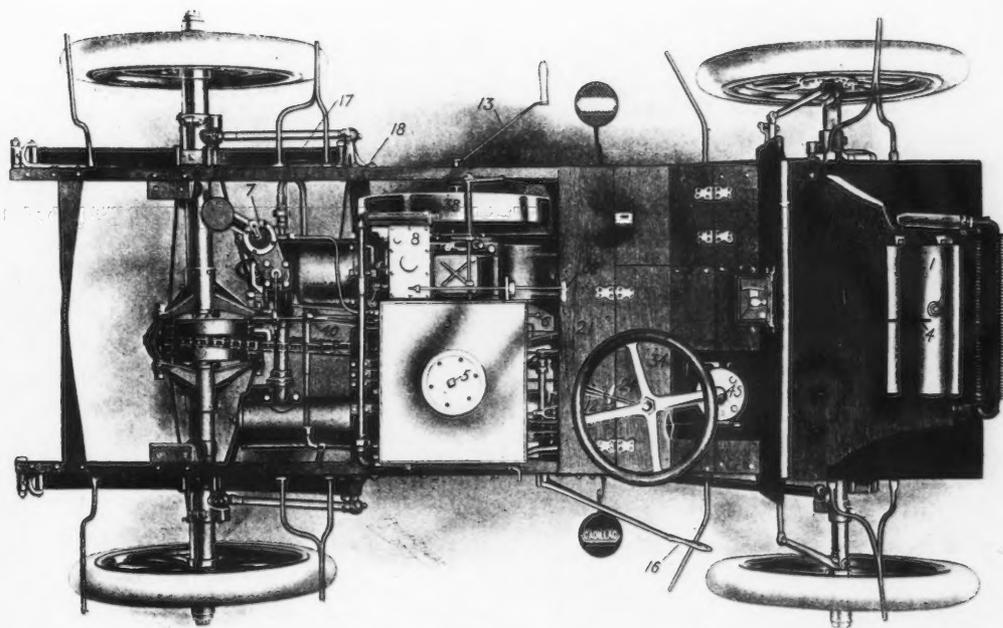
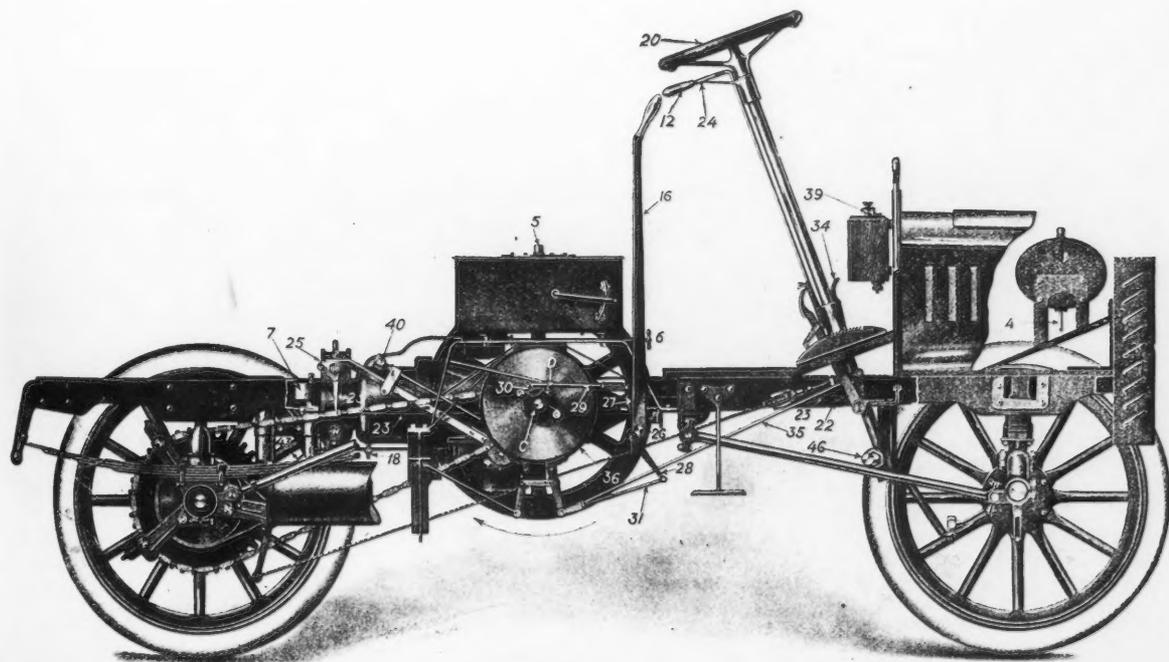

Figure 1
Figure 3
Raise hood cover and fill water tank (Fig. 1). To do this remove plug (2) in top of tank (1), insert funnel and fill with water. In freezing weather use some good anti-freezing solution. In filling tank first time or after water system has been drained, open cock (38) in end of stand pipe at side of lubricator. To get at this cock remove front cushion on left side and raise seat panel. Be sure to close cock (38) after tank is filled.
Take out cushion on right side front seat, raise seat panel, remove plug (5) in gasoline tank (3), insert the funnel and fill with clean gasoline, straining the gasoline through a screen, or preferably, a chamois skin in the funnel, and then replace the gasoline and water filling plugs (5 and 2, Fig. 1), screwing them in firmly, but not too tight. See that the gasoline valve (6) is open and that gasoline flows freely to Carburetor (7) by pressing down with the finger the primer (17, Fig. 1 and 3) until the gasoline flows out of the bottom of the Carburetor.
See that oil cup (8, Fig. 1) is full and feeds about 15 to 20 drops per minute. (No exact rule for oil feed can be given—too much oil is indicated by blue smoke from exhausts.) This cup, which also feeds the main bearings, is of the utmost importance (see Fig. 13, page 27).
The steering gear should be oiled occasionally at the top and bottom of the steering post (45, Fig. 1), also on the rack (46, Fig. 3).
Fifth. Insert starting crank (13, Fig. 1) in end of shaft (14, Fig. 1), turn crank (in direction indicated by arrow under fly wheel (Fig. 3) until the compression is felt to resist further motion, then turn the engine quickly over compression once. If engine fails to start, "prime it" by pressing down rod (17, Fig. 1) until gasoline flows. If the motor fails to start after the third or fourth time over compression there is some good reason. Cranking at random is a useless waste of energy.
Don't throw high speed lever (No. 16) forward before low speed lever (31, Fig. 3) is released or vice versa, or a broken crank shaft may result.
Open the cylinder drain valve (18, Fig. 3) so as to release the compression, then put the controller lever (16) in its neutral position, about half way between the ends of its travel. Now, by inserting the starting crank in the end of starting shaft (14) the motor should turn with very little resistance. Close the valve (18); the motor should turn as easily as before, except on the compression stroke, when throttle is wide open, which should give a considerable resistance to the turning of the starting crank. When the handle (A, Fig. 2) is turned up, and the spark lever (15) is moved to the retarded position, the spark should occur just after the end of the compression stroke of the piston. That is, just as the resistance of the compression on the starting crank has stopped, the sound of the vibrator (39, Fig. 3) on the coil should commence. If no sound of the vibrator can be heard when turning the motor over slowly by hand at the end of each compression stroke, the electrical outfit should be inspected separately. See electrical explanation (Fig. 5, pages 24 and 25).
The shifting of the cam (25, Fig. 3) increases or decreases the size of the opening into the cylinder through which the explosive mixture of air and gasoline must pass, thereby increasing or decreasing the amount of the charge which, of course, has a corresponding effect on the speed and power of the motor.
Figs. 3 and 4 show the method of engaging the different gears. The controlling lever (16) is attached to the controller shaft (26), which has attached to it two arms (27 and 28). Arm 27 has attached to its end a rod (29) which engages and controls the high speed clutch (30). Arm 28 has attached to its end a rod (31) which engages and controls the reverse brake band (32). If the controlling lever be moved forward, the arm (27) and rod (29) cause the high speed clutch to lock the transmission gearing all together so that it revolves with the motor shaft and acts as an additional fly wheel, carrying with it the driving sprocket (33).